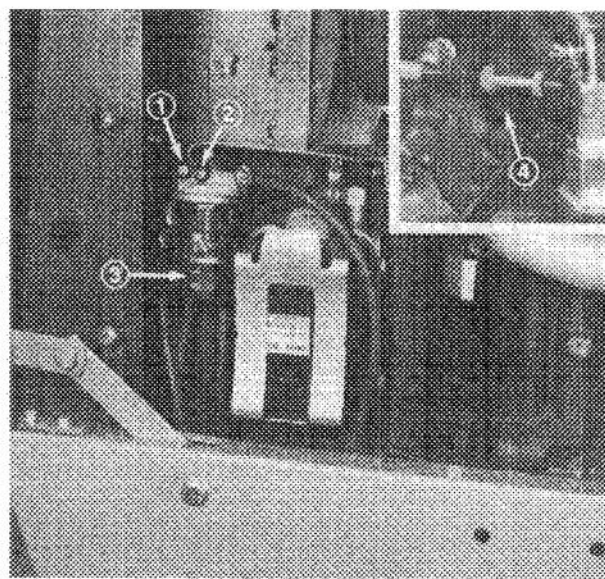

Figure 14
- 2. Loosen screw No. 1 on top of fuel filter (Fig. 14).
4. Continue until a solid stream of fuel flows out around screw. Turn screw No. 1 to closed position and open screw No. 2 (Fig. 14).
6. Open the air bleed screw on the fuel injection pump (Fig. 14 inset) with a 12 mm wrench. Tighten screw when solid stream of fuel flows out around screw. Turn key off.